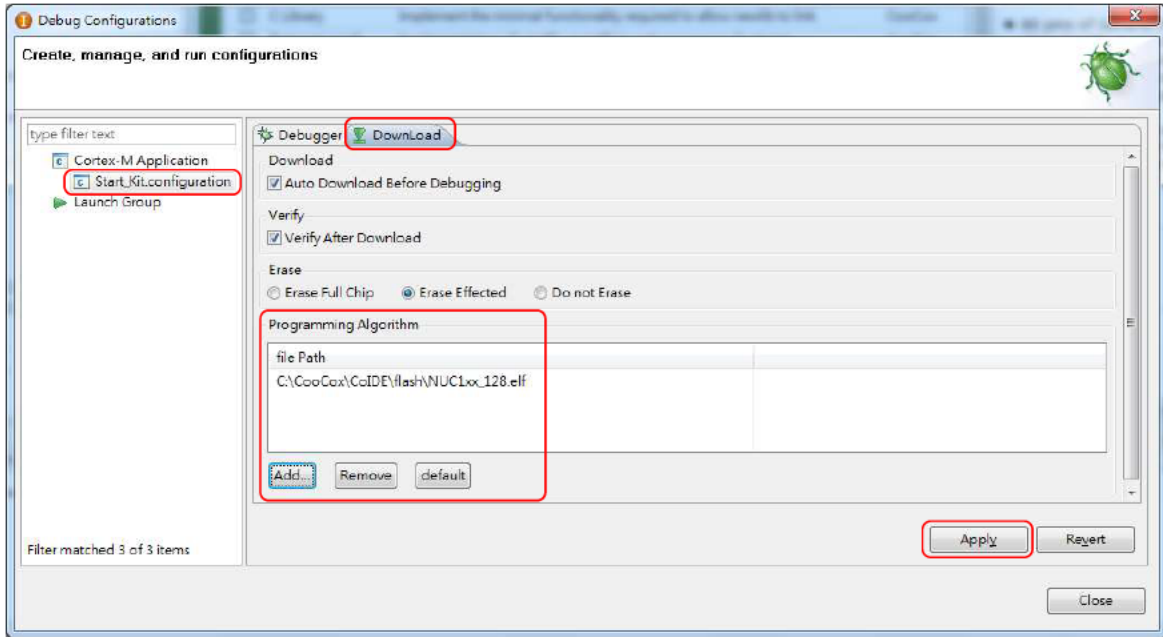

Figure 4-21 Coocox CoIDE Programming Settings
Step 4: In the **Download** tab of the *Debug Configurations* form (through invoking **Debug** → **Debug Configurations**), select the **Auto Download Before Debugging** or **Verify After Download** option to proceed with a specific programming, and set the Programming Algorithm path as `"C:\CooCox\CoIDE\flash\NUC1xx_128.elf"`, as shown in Figure 4-21.
Step 6: At last, click **Apply** to save the settings, as shown in Figure 4-21.